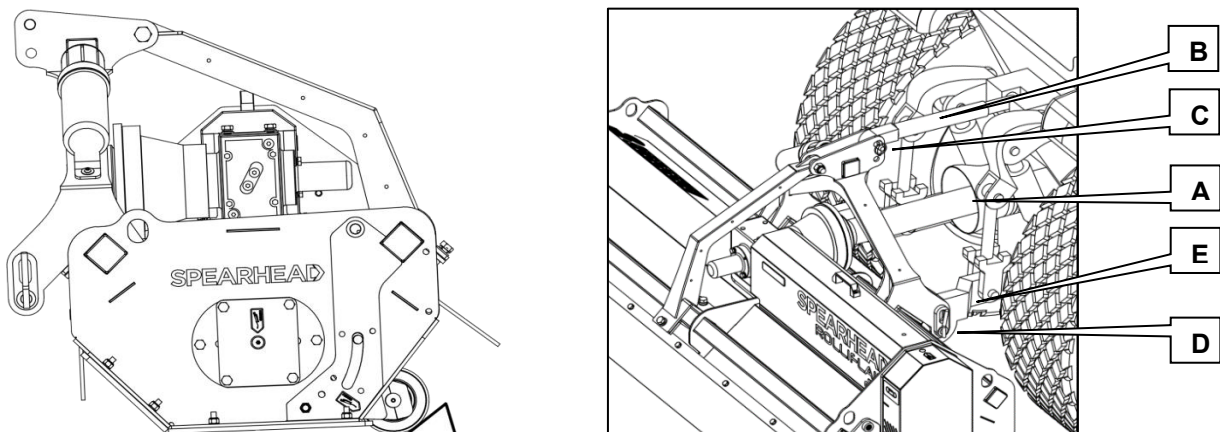

Figure 8.1
- 8.2.1.1 To prevent the risk of rolling, locate a safe place with firm flat ground on which to store the flail mower. If necessary wedge the roller to prevent inadvertent movement, see Figure 8.1.